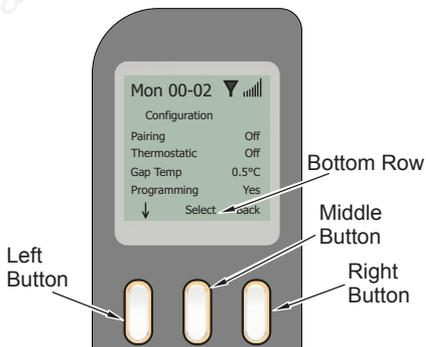

Figure 66 - Screen Changes
The screen changes depending on the input from the buttons, but the bottom row always displays the button function labels (see Figure 66). The functions of each button depends on the options available on the current screen (except for the OFF button which has always the same function).
- RIGHT (Back) button goes back to the previous screen (see Figure 66).
If "Manual" is pressed, the flame setting appears as the selected setting. In the bottom row, ↓ and ↑ appear, indicating that the flame level can be changed by pressing the left or middle button. Pressing "Back" (right button) returns to the initial screen (see Figure 66, page 29).